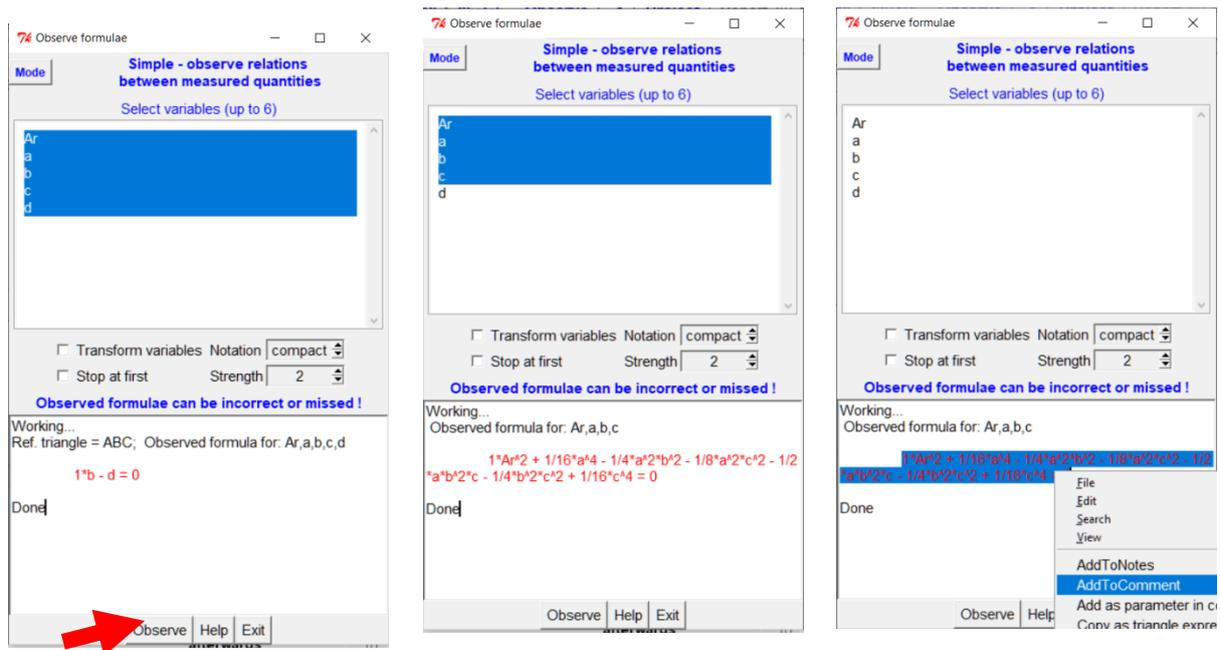

Figure 31
4. OK Geometry looks for a polynomial relation of the lowest degree containing the selected variables. In our case there is a trivial relation $b = d$, which is certainly not of our interest. Therefore we unselect a redundant variable b or d and repeat the observation (Figure 31, centre).
6. To add a further dynamic numerical test for the obtained relation, proceed as follows (Figure 31, right):
The results of the command **Observe formulae** are written in an ordinary text editor. In addition to the common text editor commands, available by a right-clicking on the results area, there are some specific commands (see Figure 31, right). All specific commands refer to the text in block. **So, to use the specific commands, you must first put in block the text on which to apply the command.**